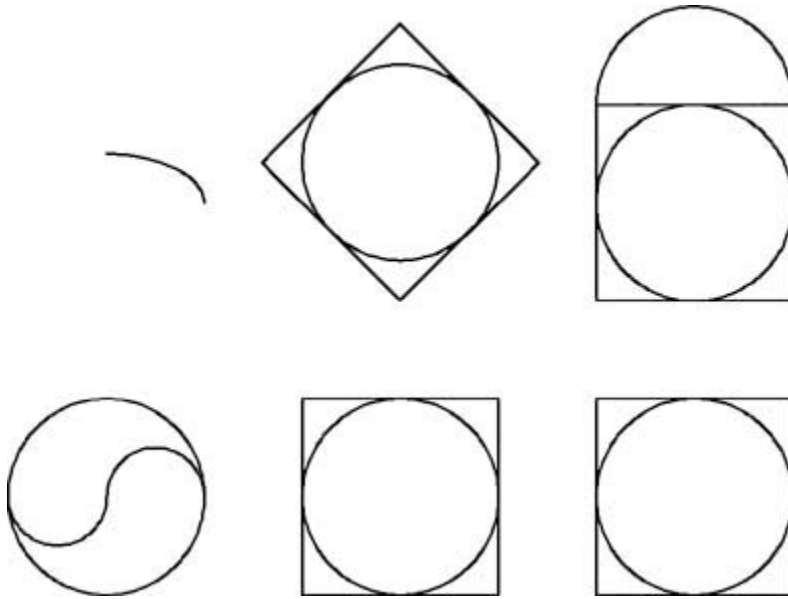

Figure 4-29
- 9** Pick a second point at 90° along the ellipse to specify the end angle. The elliptical arc is created between the start and end angles. Your drawing should look like Figure 4-29.